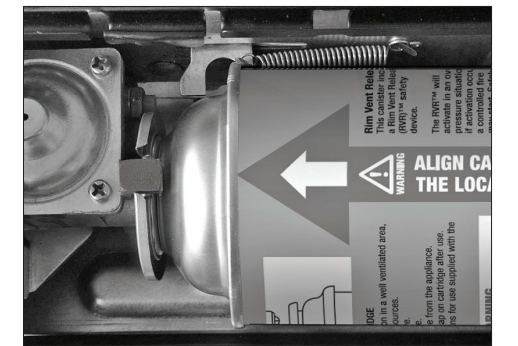

Fig. 2
2. Open the Cartridge Cover: Slide the gas cartridge, top end first and with its notch up, into the compartment. Align cartridge collar notch with the red locator tab on the appliance (Fig. 2).